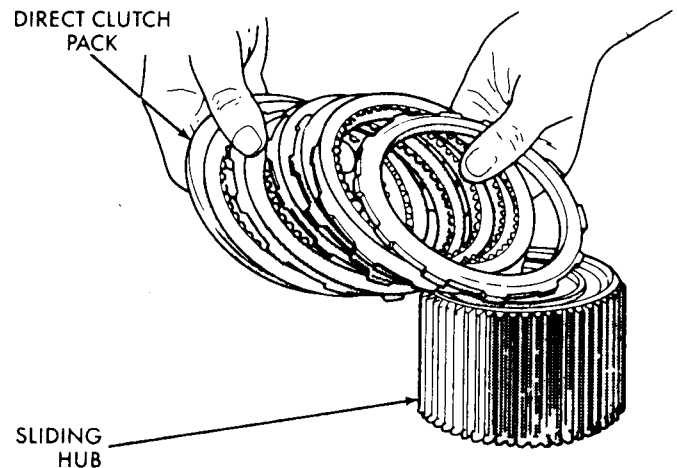

Fig. 4—Direct Clutch Components
(3) Remove sliding hub with direct clutch on it. Remove components of the clutch from the hub and inspect them one at a time (Fig. 4).